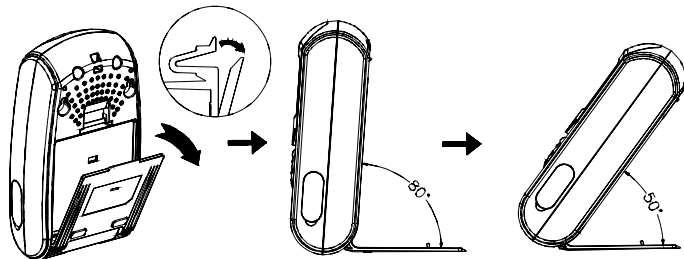

Fig. 13
1. Adjust the swiveling pivot to an appropriate angle for best viewing condition. (Fig. 13)